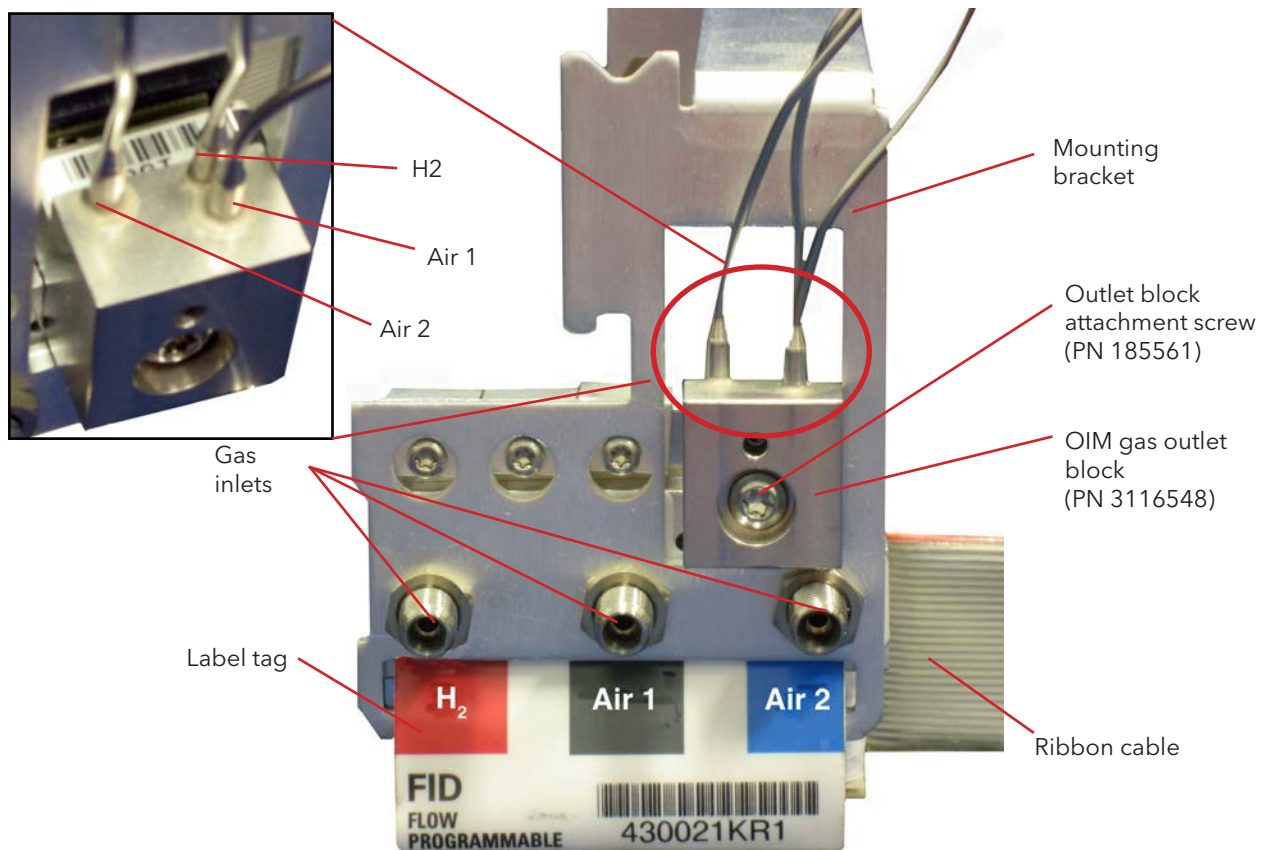

Figure 3.32. OIM Pressure Control Manifold Configured for the PFPD
14. Using 1/8" brass nuts and ferrules, attach the H₂ gas line to the inlet labeled "H2", an air line to the inlet labeled "Air 1", and another air line to the inlet labeled "Air 2" (Figure 3.32).